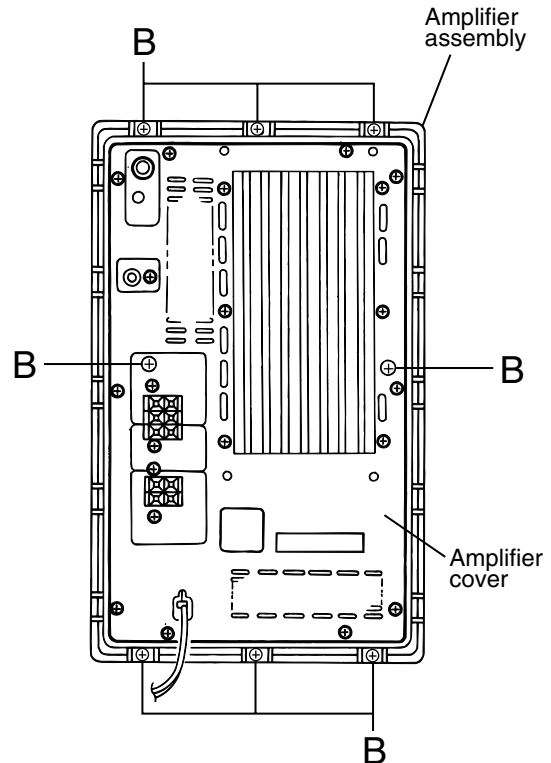

Fig.2
■ Removing the amplifier assembly and the amplifier cover (See Figs.2 and 3)